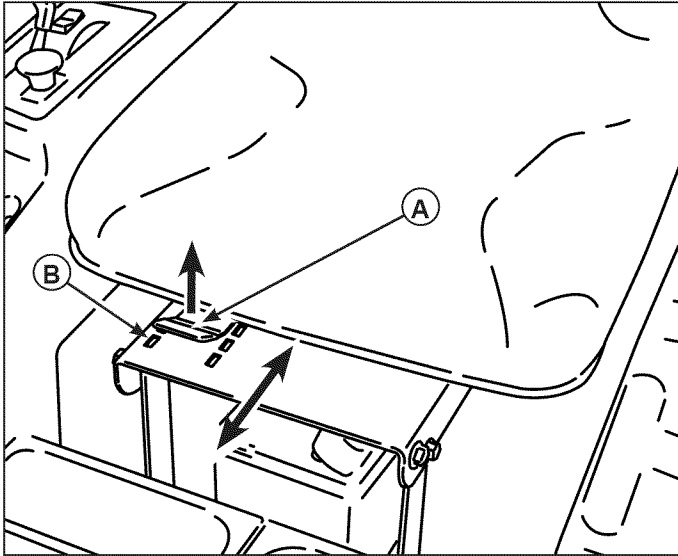

Figure 12. Seat Adjustment
Lift the seat adjustment lever (A, Figure 12). Slide the seat forward or backward to the desired position, then lower the seat adjustment lever. Make sure the lever locks into the locking slots (B) in the seat base.